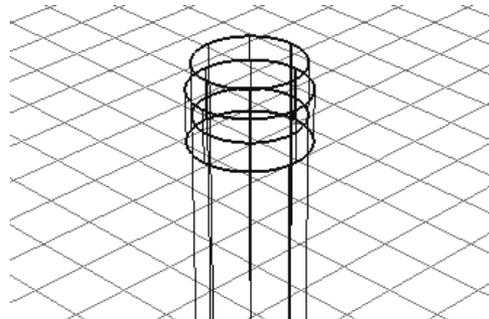

Figure 2-119 Model after scaling the base of the eraser
4. Enter **100, 100, 50** in the promptline and press ENTER; the base of the eraser is scaled, as shown in Figure 2-119.